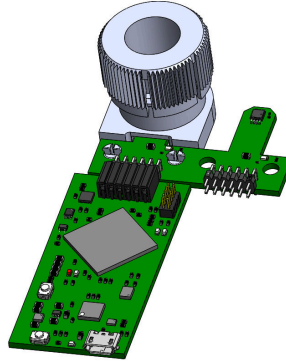

Figure 3-8. Rotate & Push Module on EVM
- b. Purchase and use the Rotate & Push Module, ROTATEPUSH-MAG-ACC, by attaching the module to the EVM (see Figure 3-8). For more details on how to use this module, see Section 3.2.
2. Attach the Rotate & Push Module to the EVM as shown in Figure 3-8.